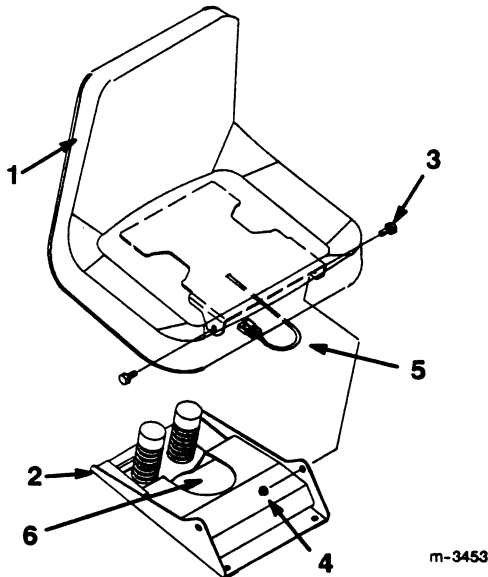

Figure 6
1. Mount the seat to the seat base using two 5/16" shoulder bolts and lock nuts (Fig. 6).
2. Insert the seat switch wire through the center opening in the seat base (Fig 6).